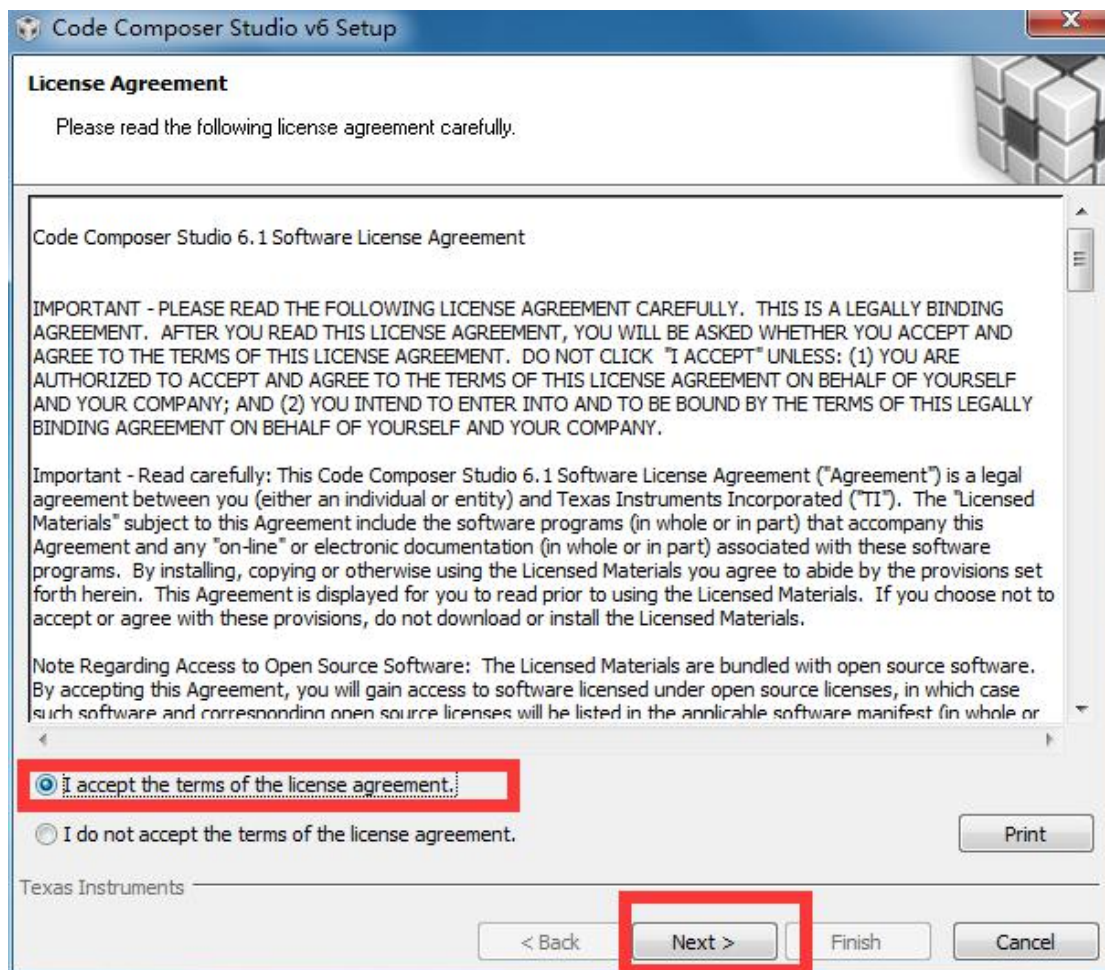

图 1-5
5. 图 1-5 中选择 “I accept the terms of license agreement”, 点击 “Next”